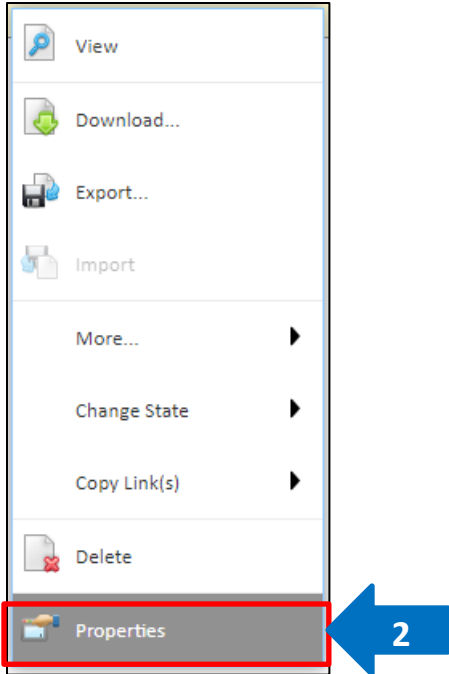

Figure 3.22. Options when right clicking a file on the Online System.
2. Select Properties (Figure 3.22).